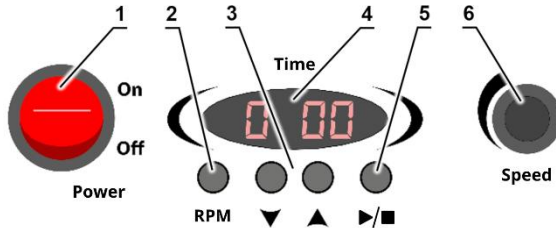

Figure 1. MR-1, control panel
5.1. Connect the external power supply to a grounded mains outlet. Switch **on** the **Power** switch (fig. 1/1). Display powers up (fig. 1/4)
5.3. **Setting time.** Using **▲** and **▼** keys (fig. 1/3), set the necessary time interval in hours and minutes (step 1 minute), as shown on the display (fig. 1/4). If a key is held down for long time, values change faster.
5.4. **Setting speed.** Using the **Speed** knob (fig. 1/6), set the necessary shaking speed. When turning the knob or pressing the **RPM** key (fig. 1/2), the display (fig. 1/3) shows speed in rockings per minute (RPM).
5.5. Press the **▶/■** key (fig. 1/5). Platform begins movement and timer starts counting elapsed time, for values below 1 hour- in minutes and seconds (mm:ss), above 1 hour – in minutes (hh:mm). Speed can be changed during operation.